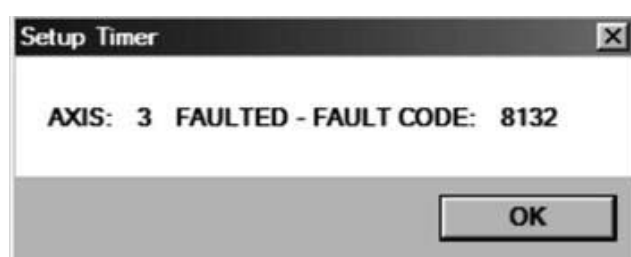
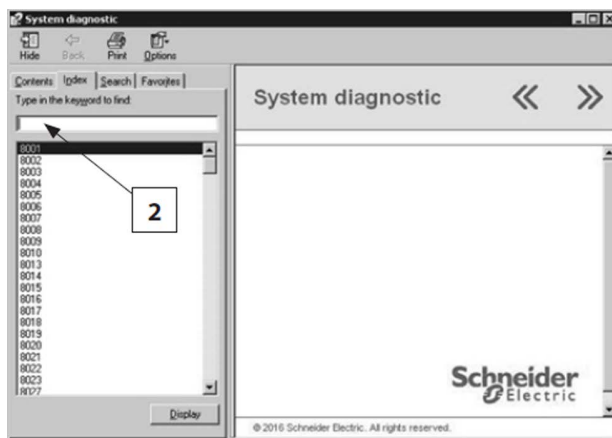

FIGURE 56
FIGURE 60
When the motion control detects an error, the software notifies the user with a pop-up screen. The screen contains an error code (Figure 56). The errors are tied to a specific set of issues and identify the areas to check when solving the problem.
The MANUAL button opens the System Diagnostic screen (Figure 60). The System Diagnostic is used to manually enter an error code and diagnose the problem. The error code can be read from the pop-up error messages (Figure 56) or from the Error Log (Figure 59).
2. In the Index tab, type in the error code and click display (Figure 60).